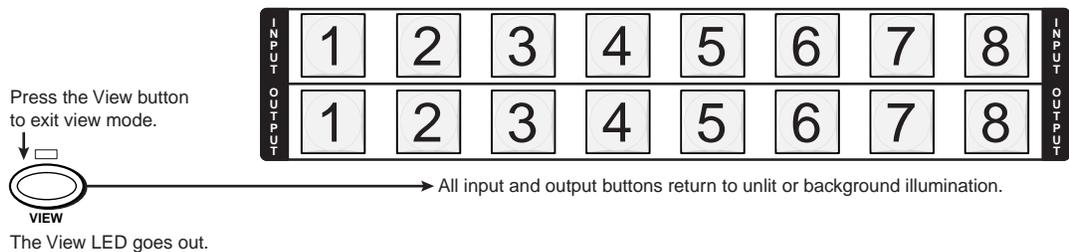

Figure 3-25 — Press the View button to exit view mode
7. Press and release the View button to exit view mode (figure 3-25).